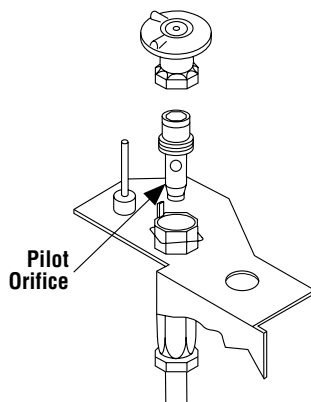

Figure 53
Step 13. See **Figure 53** and replace the pilot orifice as follows: Remove the pilot hood assembly to access the hexed pilot orifice. Remove and replace the orifice with the one provided with the kit. **Exercise extreme care to prevent damage to or breakage of the ignitor assembly.**